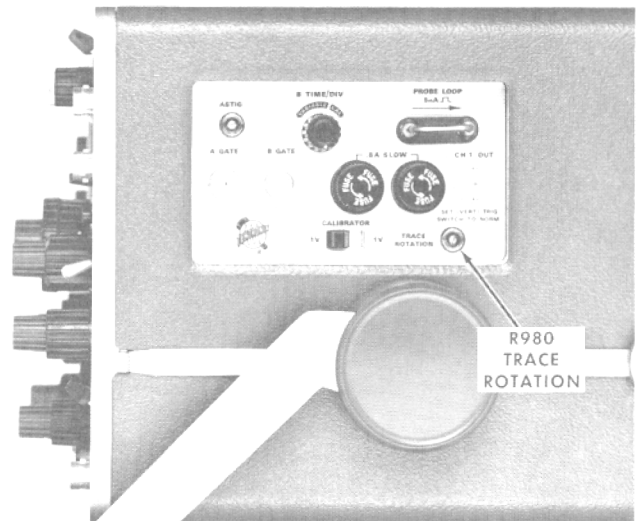

Fig. 6-13. Location of Trace Rotation adjustment (side panel).
- c. Adjust—TRACE ROTATION adjustment, R980 (see Fig. 6-13), so the trace is parallel to the horizontal graticule lines.